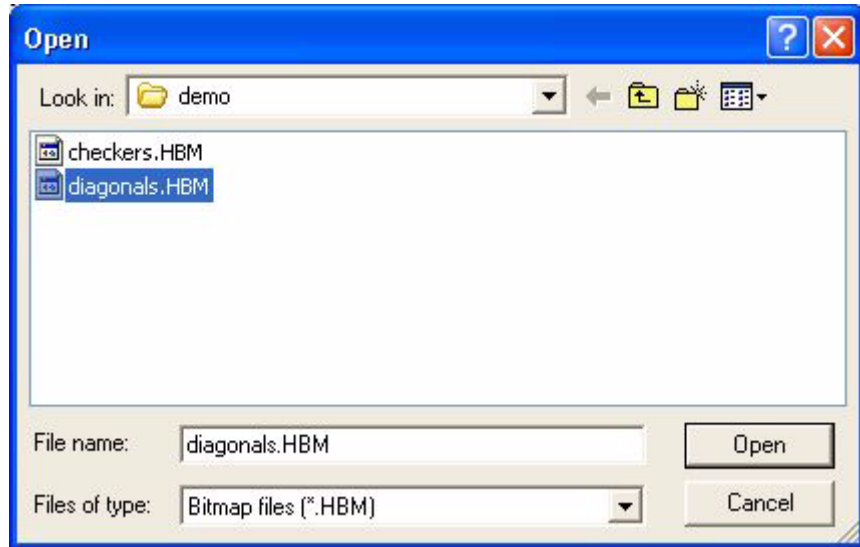

Figure 8-65. Load Bitmap File Open Dialog Box
- 1 Selecting the Action > Load Bitmap command or  toolbar button displays the Load Bitmap File Open dialog box (similar to Figure 8-65).
- 3 Selecting the Action > Load Bitmap command or  toolbar button again displays the Load Bitmap File Open dialog box (similar to Figure 8-65 on page 411).